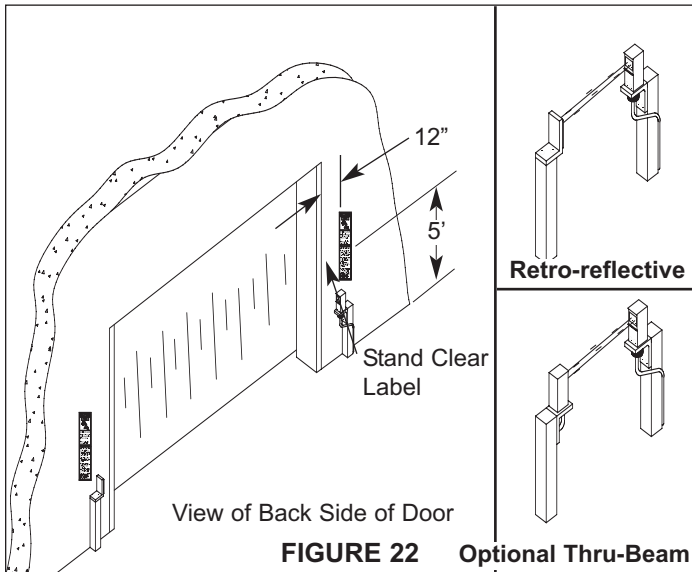

FIGURE 22 Optional Thru-Beam
2. Peel off backing on label and apply in the proper position, *Figure 22*.